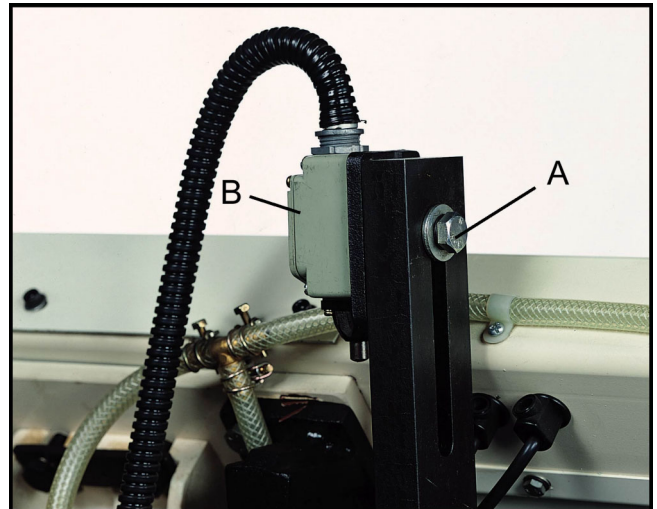

Fig. 19
3. Loosen set screw (A, Fig.19), push down the limit switch (B, Fig.19) against the plate on hydraulic cylinder.
4. Tighten set screw (A, Fig.19)